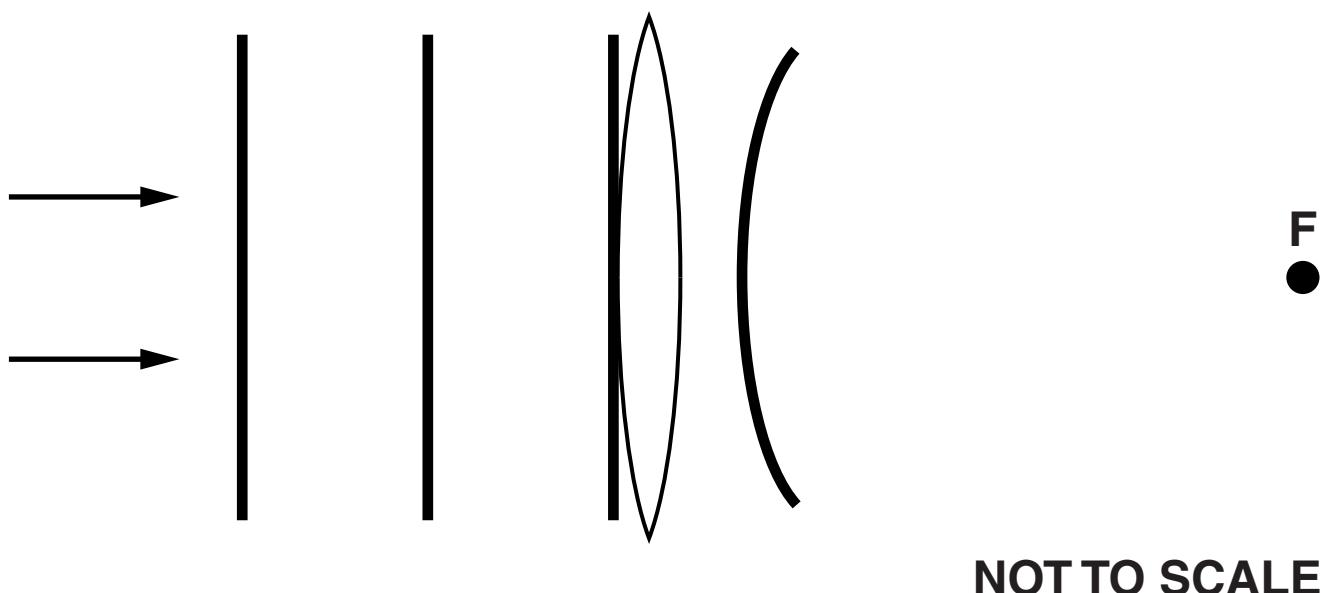

FIG. 2.1
- 2 Fig. 2.1 shows three wavefronts of the light from a very distant object incident on a lens.
- (b) On Fig. 2.1 one wavefront of the light between the lens, and F, the principal focus of the lens, has been drawn.